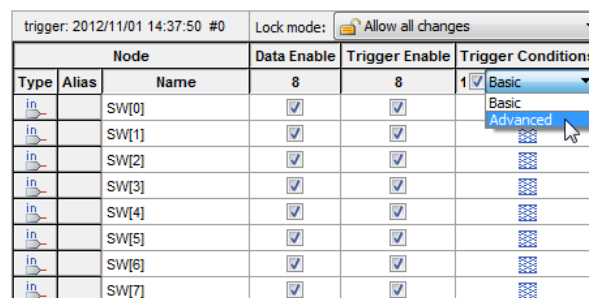
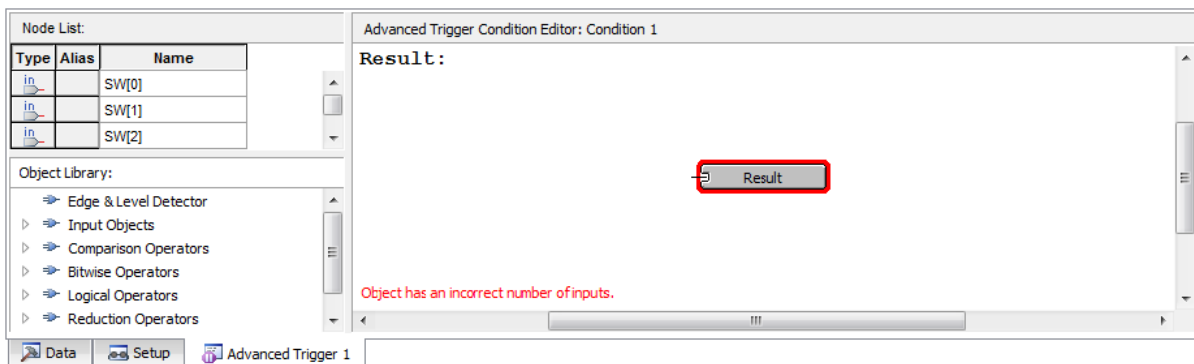

Figure 17. Select Advanced from the Trigger Level dropdown menu.
Figure 18. The Advanced Trigger editing window.
3. In the Trigger Conditions column of the node list, make sure the box is checked and select **Advanced** from the dropdown menu as in Figure 17. This will immediately bring up the window in Figure 18. This window allows you to create a logic circuit using the various nodes that you are probing with SignalTap.